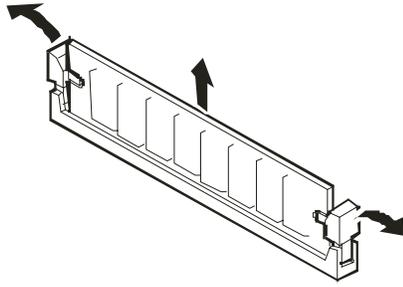

Figure 4-18. Removing a DIMM
10. Gently push the plastic ejector levers out and down to eject a DIMM from its socket. See Figure 4-18.